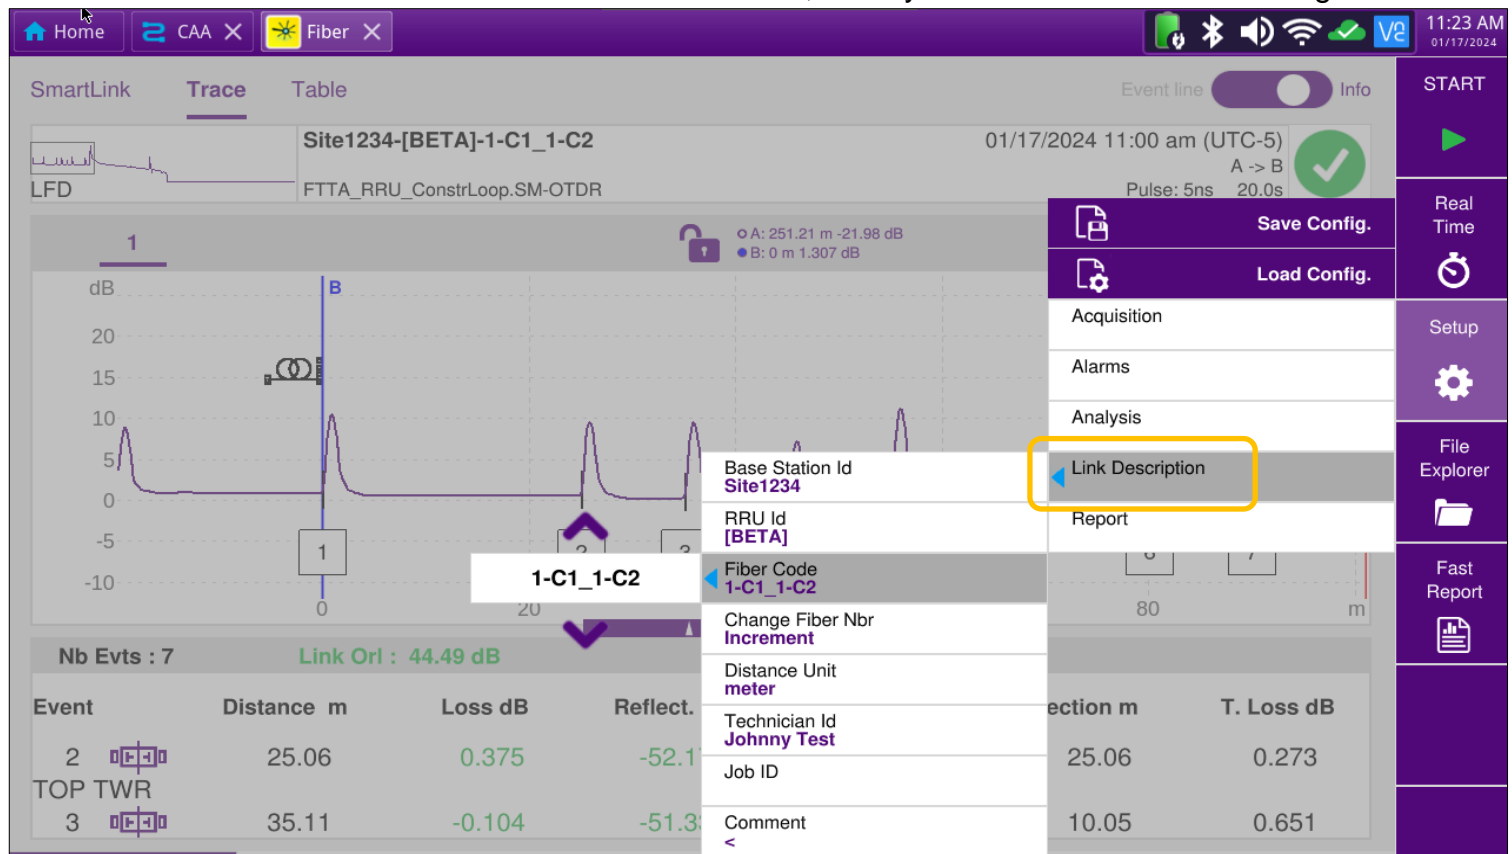

Figure 10: Setup example - Link Description
6. Configure **Link Description** (*Figure 10* below) settings as follows: